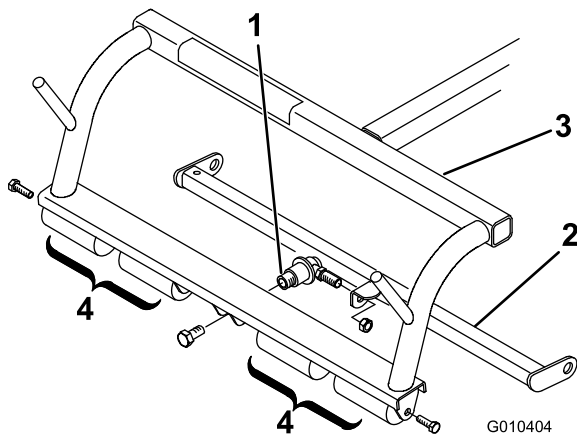

Figure 3
Note: If the carrier frames are equipped with single point pull frames, the pull frame and attaching ball joint must be removed (Figure 3).
- A. Remove the screws securing the outside ends of each anti-scalp roller shaft to each end of the carrier frame (outside end of shafts only) (Figure 3).